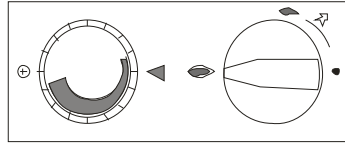

Figure 6 - Minimum Position
1. Once the pilot is established, the main burner can be operated by turning the control knob anti-clockwise to the large flame symbol. The preset minimum is found with the arrow in the 3 o'clock position as shown in **Figure 6**.